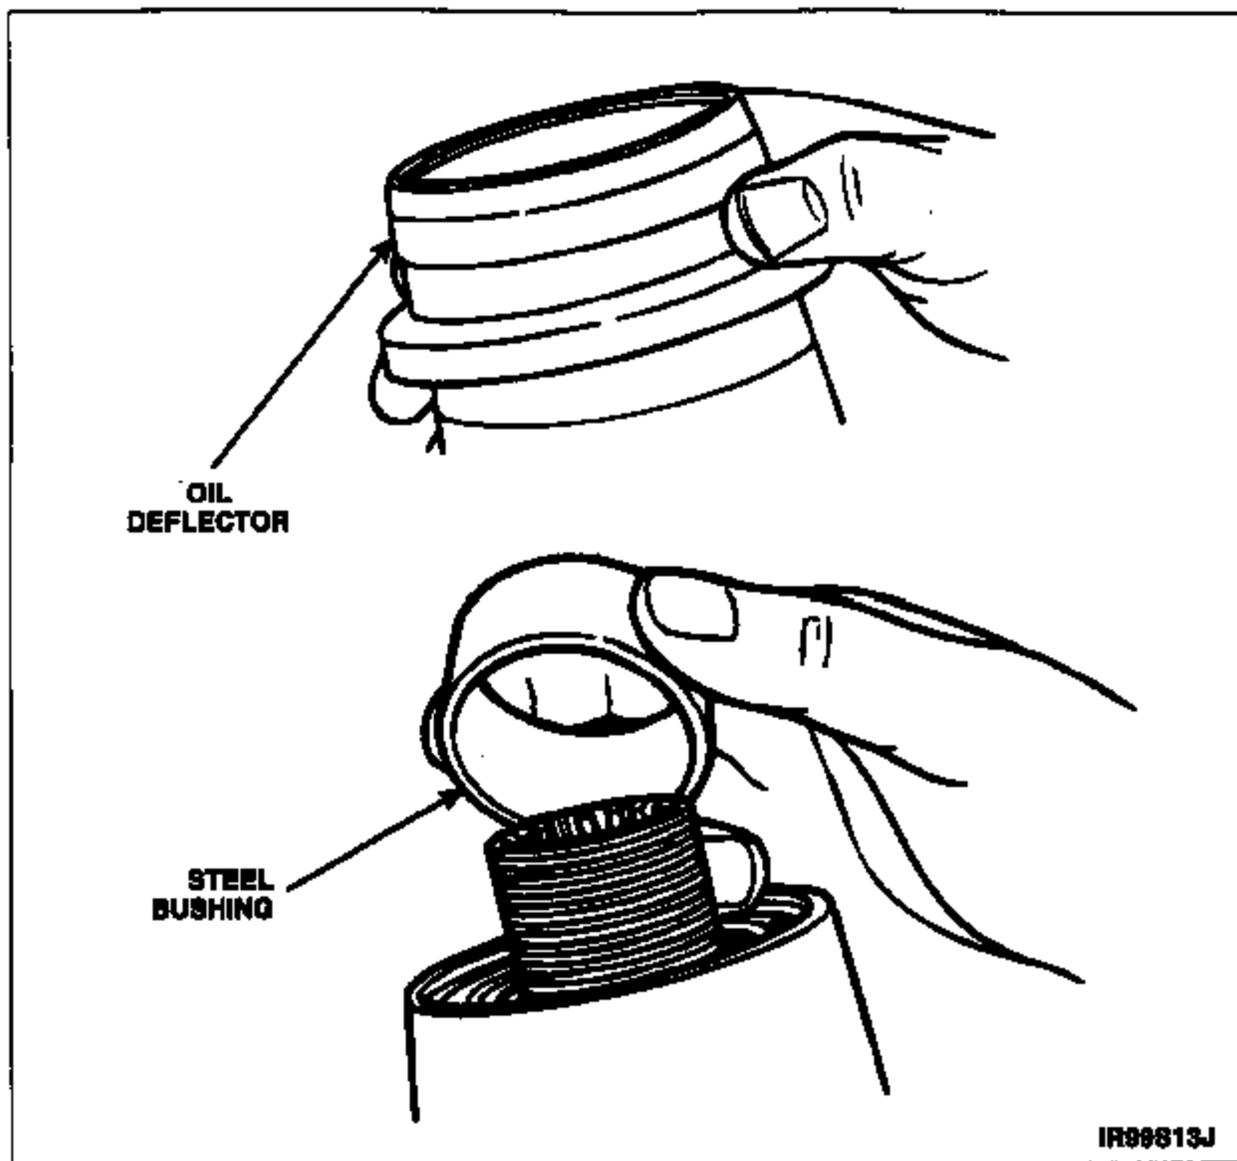

FIGURE 10
39. Remove the oil slinger from the front output shaft. Refer to Figure 10.
40. Remove the steel bushing from the front output shaft. See Figure 10. Note the orientation of the bushing for installation purposes.